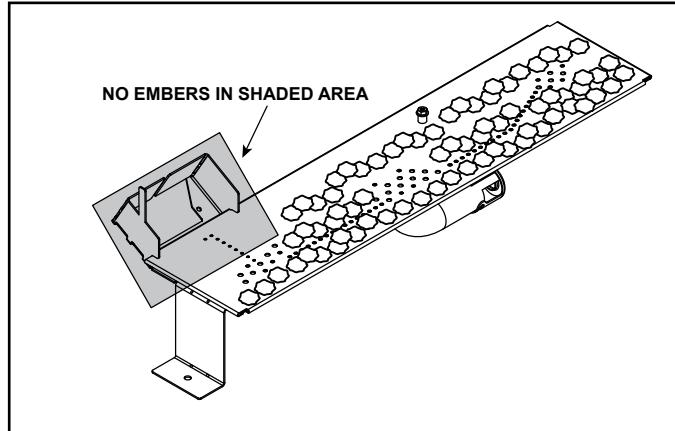

Figure 11.2 Placement of Embers
- Embers CANNOT be placed in pilot bracket area. See Figure 11.2. Care should be taken not to cover the lighting trail of ports (from back to front).
- When placing Glowing Embers® onto the burner care should be taken so that the ports are not covered. Place the dime-size ember pieces near the port holes in the burner top (see Figure 11.2). Failure to follow this procedure will likely cause lighting and sooting problems..